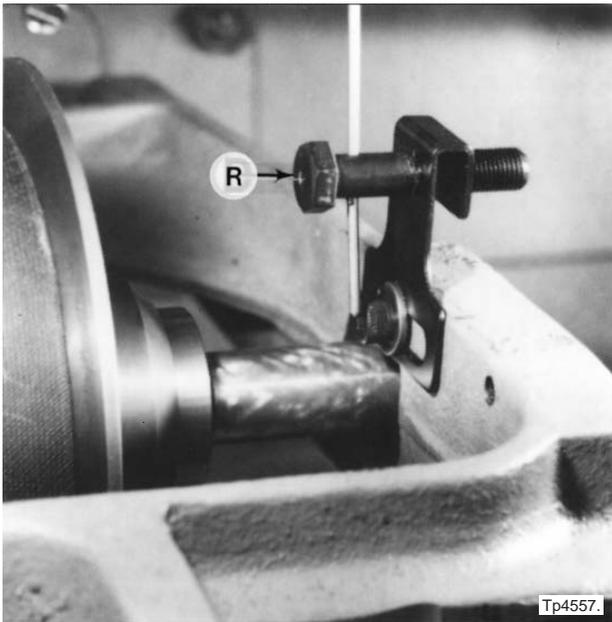

Figure 6.10 - Indicator Rod Bracket
22. Loosen screw "R", Figure 6.10, located in the motor compartment, to release the speed indicator rod.